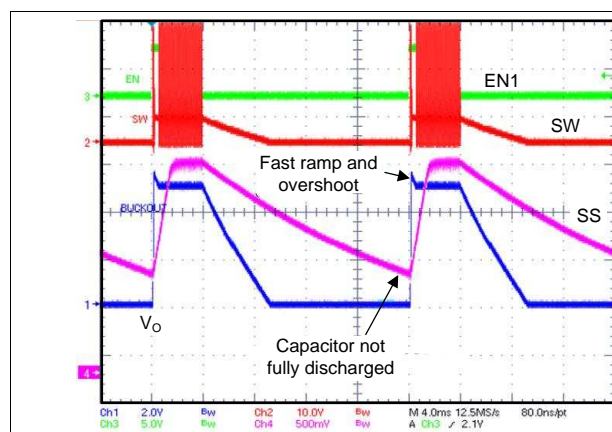

Figure 16. Partially Discharged SS Capacitor Causing Overshoot on V_O
- VIN-overshoot (up to 1 V was observed, see Figure 16)